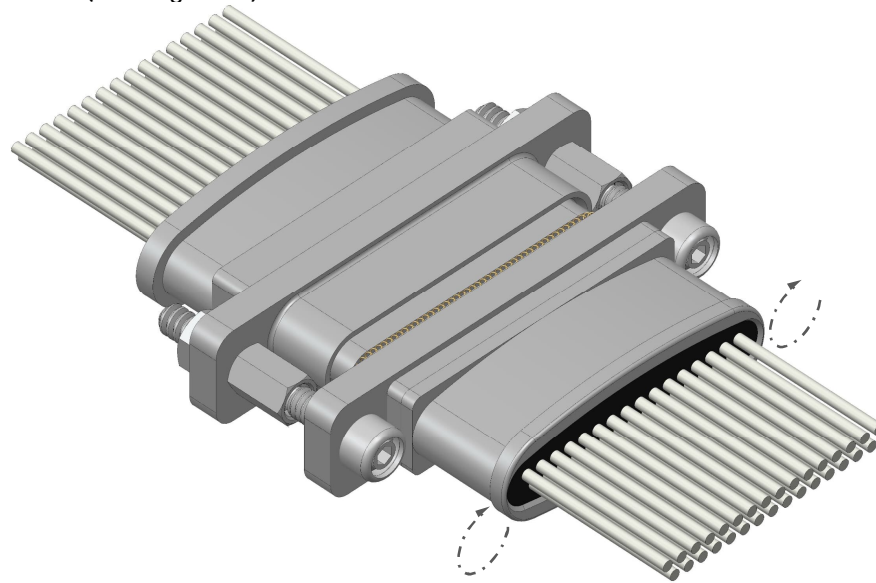

Figure 2
2. Using a driver or fingers, turn one screw $\frac{1}{2}$ a full revolution (180°), then turn the other screw $\frac{1}{2}$ a full revolution (See Figure 2).